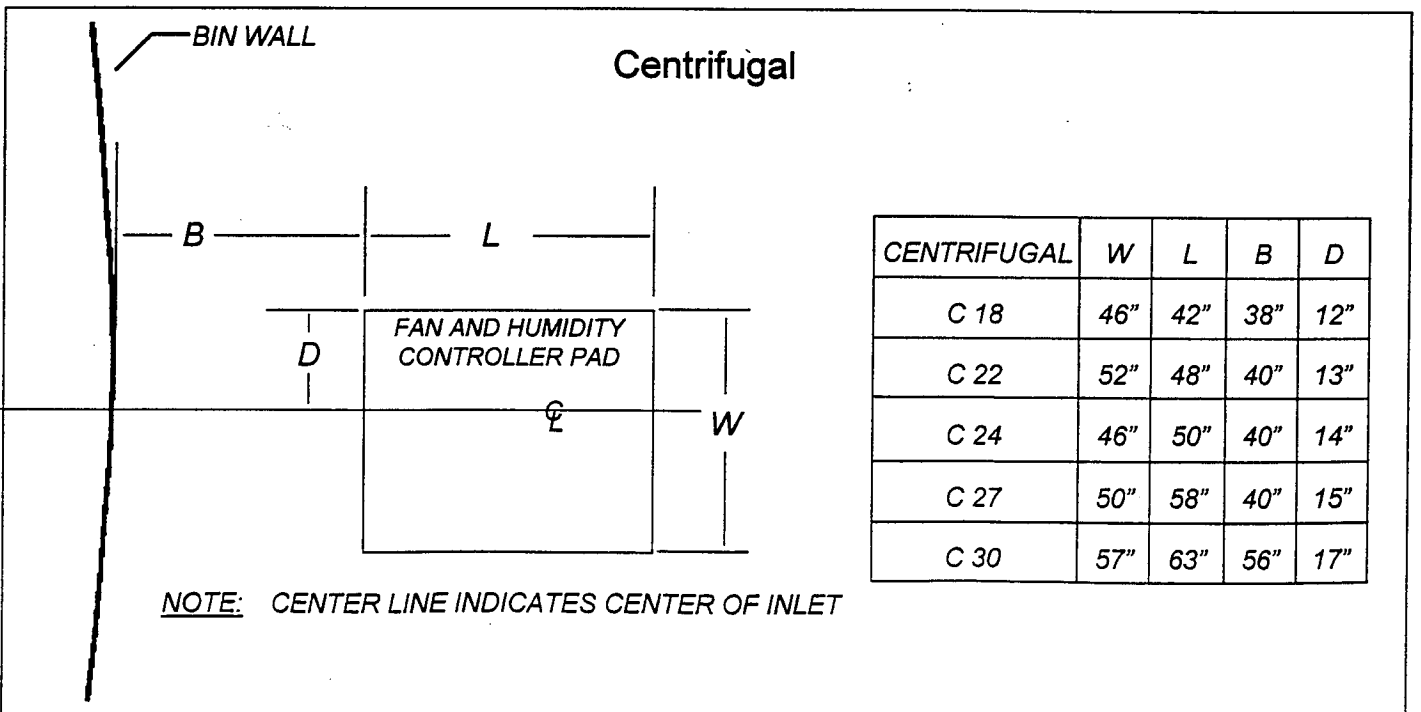

Figure 2. Fan-Humidity Controller Mounting Pads
- 2) For proper operation of humidity controller, the fan and humidity controller are to be mounted on a level pad. The fan will rest on the pad with the humidity controller supported by the fan. The pad should be the same height as the concrete floor of the bin. Check the mounting pad illustration on page 6 Figure 2, for proper location of the pad for axial and centrifugal fans. Note that centrifugal pad specifications are for a clockwise (wheel rotation viewed from the motor side) rotating unit.